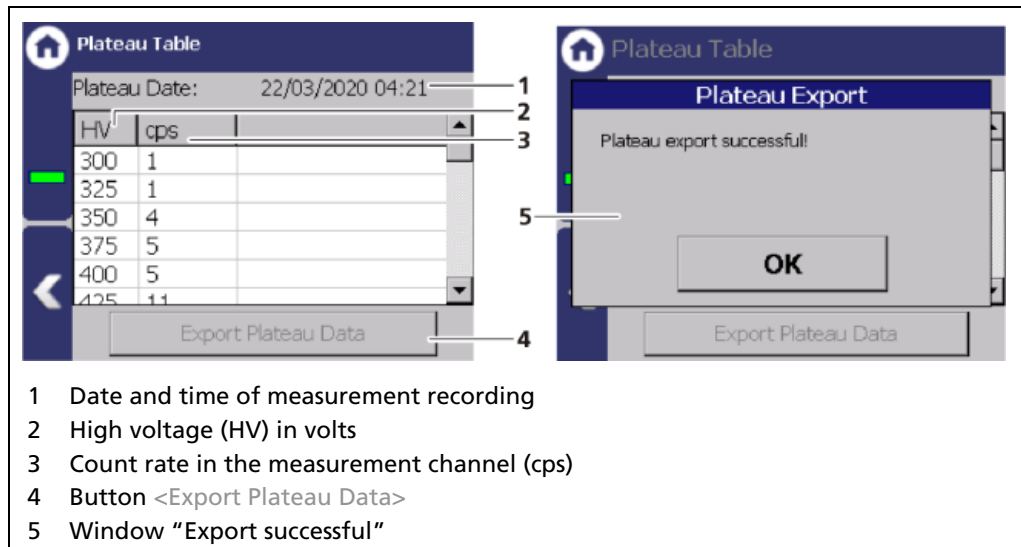
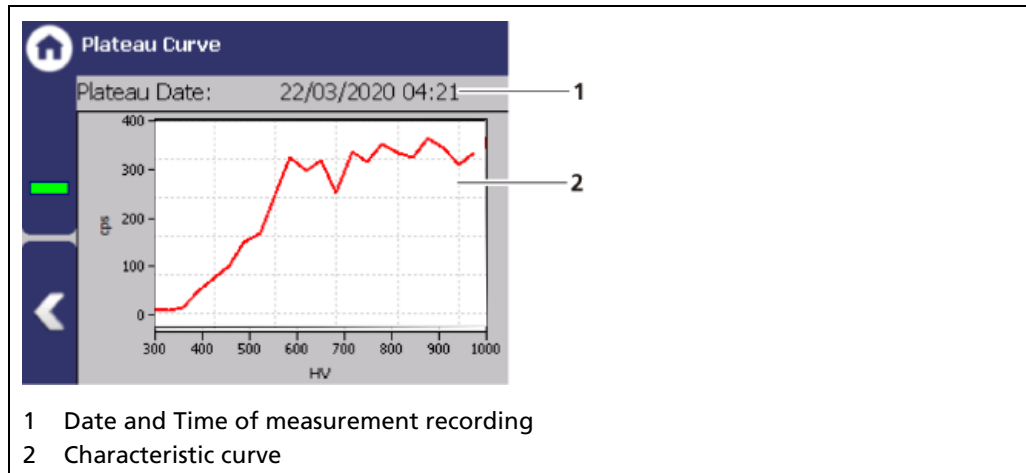

Fig. 51 Plateau Table
Fig. 52 Plateau Curve
- ▶ The recorded values are read and entered into the table (Fig. 51), the plateau curve (Fig. 52) is displayed and stored automatically.
2. Click on the button <Export Plateau Data> (Fig. 51, item 4).
The mapped characteristic curve (Fig. 52, item 2) of the last complete plateau measurement is displayed in the window "Plateau Curve".